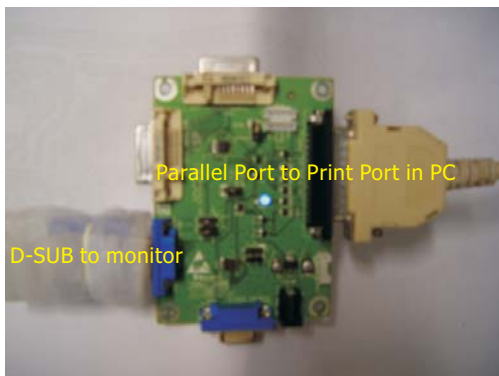

Fig. 1
4. DDC2BI_ISP TOOL (3138 106 10396) as shown in Fig. 1